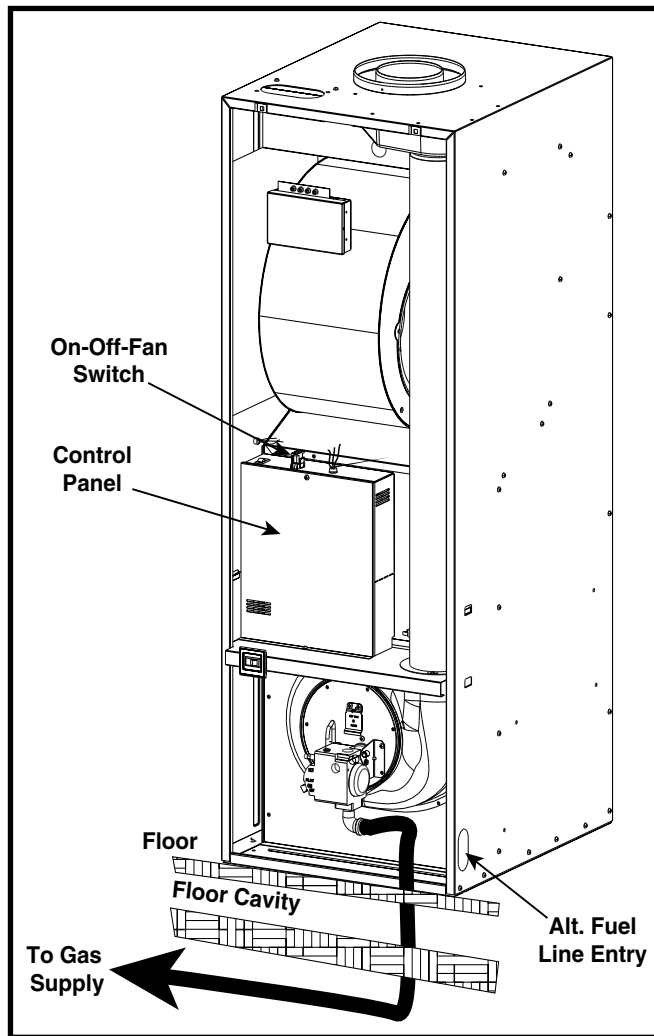
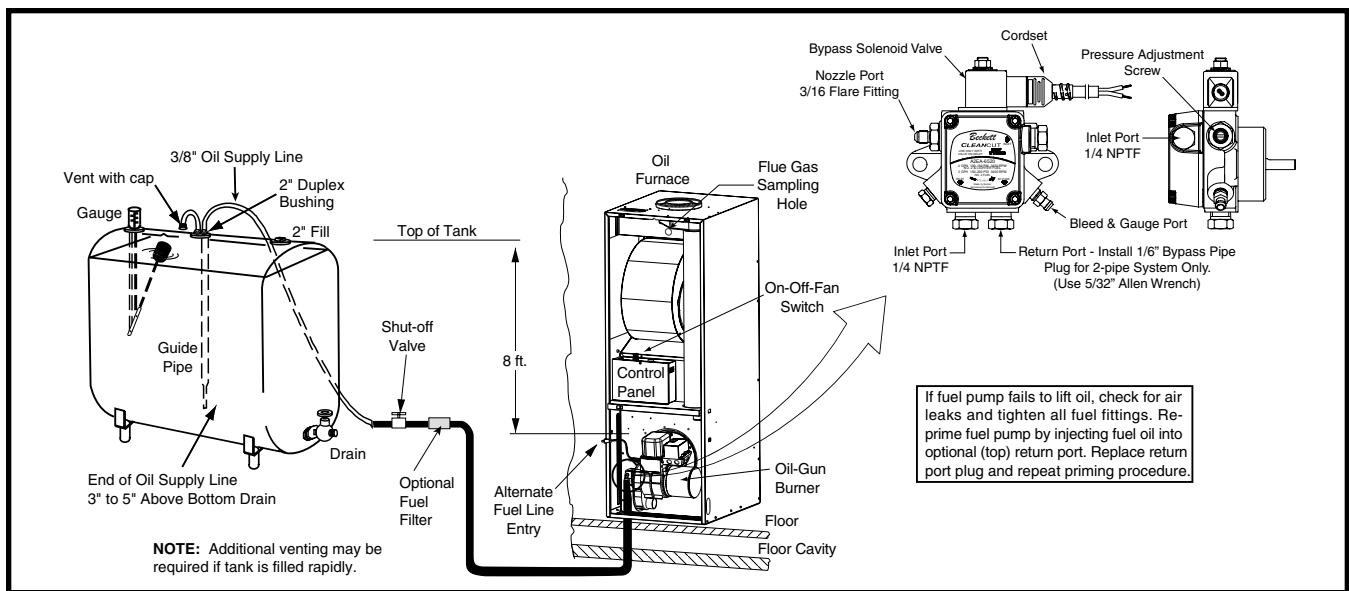

Figure 26. Typical Gas Piping
Figure 27. Typical Oil Piping for Above Ground (Single-Line) Supply
This furnace may be installed with left, right, or bottom gas entry. When connecting the gas supply, provide clearance between the gas supply line and the entry hole in the furnace casing to avoid unwanted noise and/or damage to the furnace. Typical gas service hookup for this furnace is shown in Figure 26 \(page 17\).
- Some local regulations require the installation of a manual main shut-off valve and ground joint union external to the furnace. See Figure 27 \(page 18\). The shut-off valve should be readily accessible for service and/or emergency use. Consult the local utility or gas supplier for additional requirements regarding placement of the manual main gas shut-off.
- Fuel line installations other than typical installations shown in Figure 26 \(page 17\) & Figure 27 \(page 18\) must comply with the fuel piping provisions stated in the Federal Manufactured Home Standard (H.U.D. TITLE 24, PART 280) and the National Fuel Gas Code (ANSI-Z223.1/NFPA-54).
- A fuel or tank gauge is recommended for easy checking of the fuel level. Check the gauge reading with a dipstick. See Figure 27.
The One-Line System is highly recommended where vertical lift, from bottom of tank to pump, is less than 8 feet (Figure 27). A single line hookup has the advantage of lower cost and quieter operation.
2. Install duplex bushing for two 3/8" lines in the top fitting of the tank. See Figure 27.